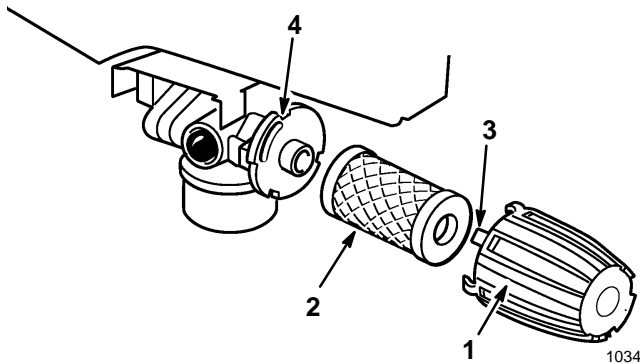

Figure 14
1. To replace the air filter, turn the cover left (counterclockwise) and pull the cover and filter off of the flange (Fig. 14).
4. Position the filter and cover against the flange, positioning the tab on the cover into slot in the flange (Fig. 14).